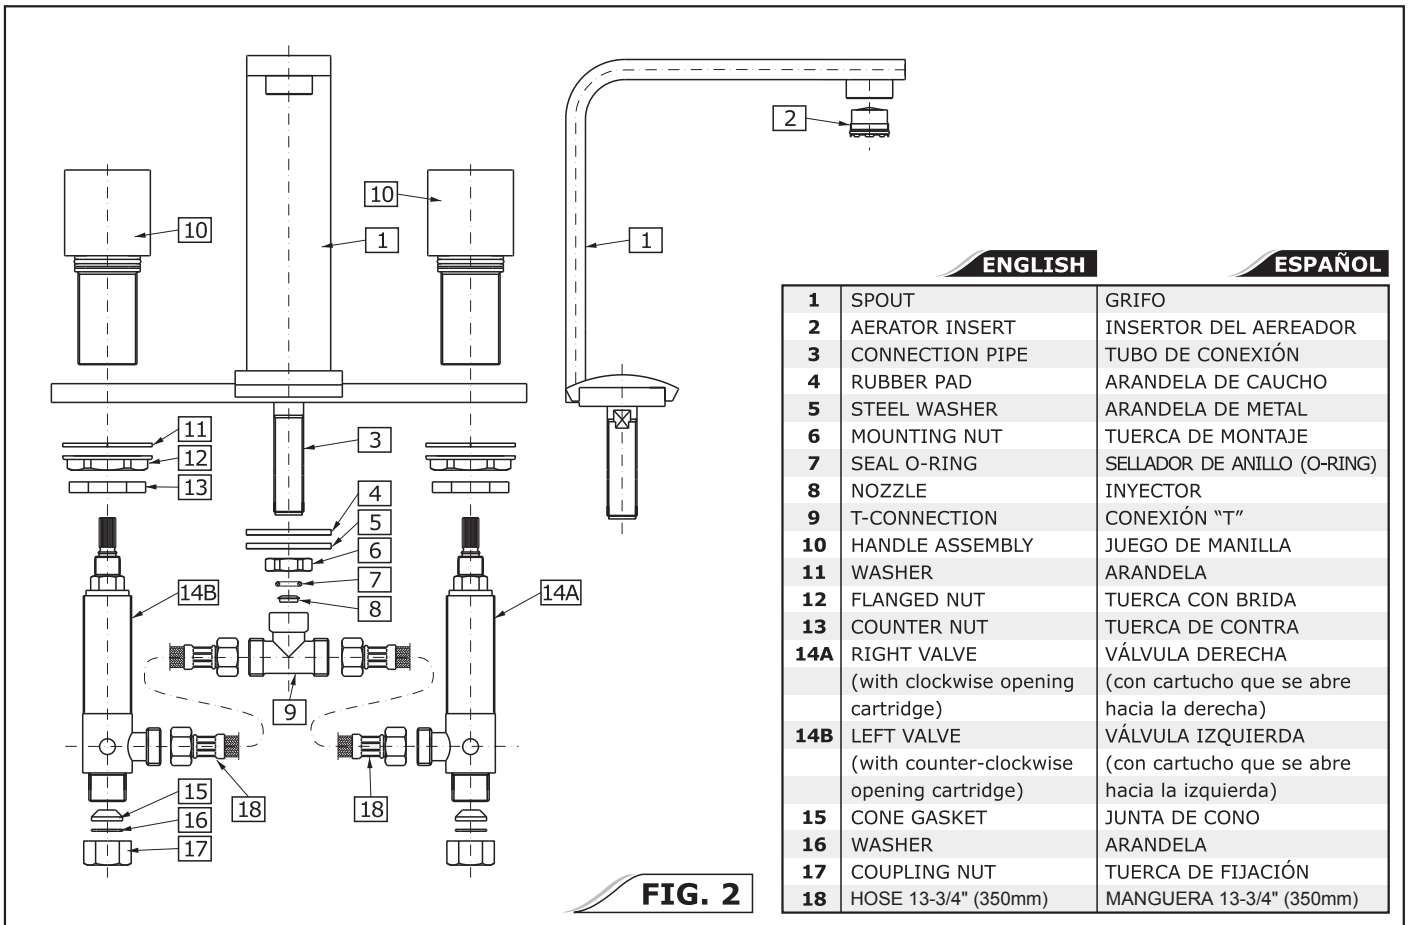

**FIG. 1A**
- ➔ Note the position of the outlet of the valve and make sure it fits the flexible hose connection (18) fig. 1A. If it is ok tighten the counter nut (13), if not move the valve by the required angle. To achieve this do the following:
- secure the handle and the valve with the counter nut (13).